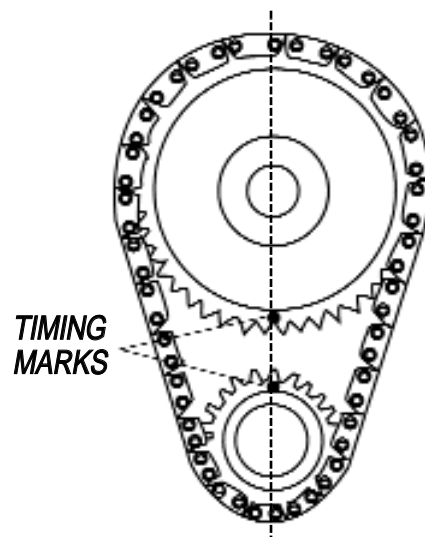

Figure 2- Timing Chain Sprocket Alignment
13. Rotate engine until timing marks are aligned as shown in Figure 2.
CAUTION: Use Edelbrock Performer-Link True Rolling Timing Chain and Gear Set #7804. Do not use late model timing chain & gear sets that are designed in a retarded position and are not recommended for this camshaft installation. Edelbrock Timing Sets feature three keyways for specific timing selection. Use locking compound material on the bolt threads holding timing gear to cam. Torque to factory recommendations specified in motor repair manual. Install camshaft with timing marks lined up as recommended by factory specifications. See Figure 2. When using Performer-Link Timing Chain and Gear Sets with Edelbrock cam and lifter kits, straight up timing alignment is achieved. If any other timing gear set is used, it is necessary to check
- After the cam is installed and timed correctly (see Figure 2), it will be necessary to check each pushrod for correct lifter preload.